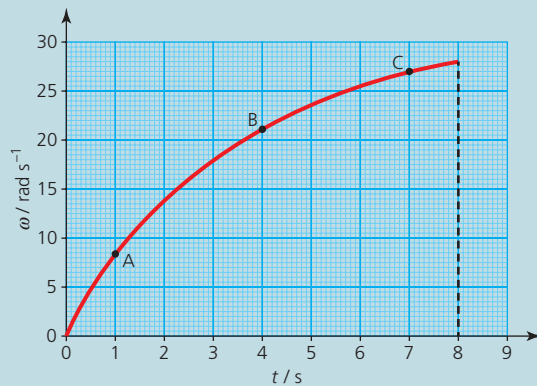

Figure 15
14. Figure 15 shows the increase in angular velocity of an object with time.